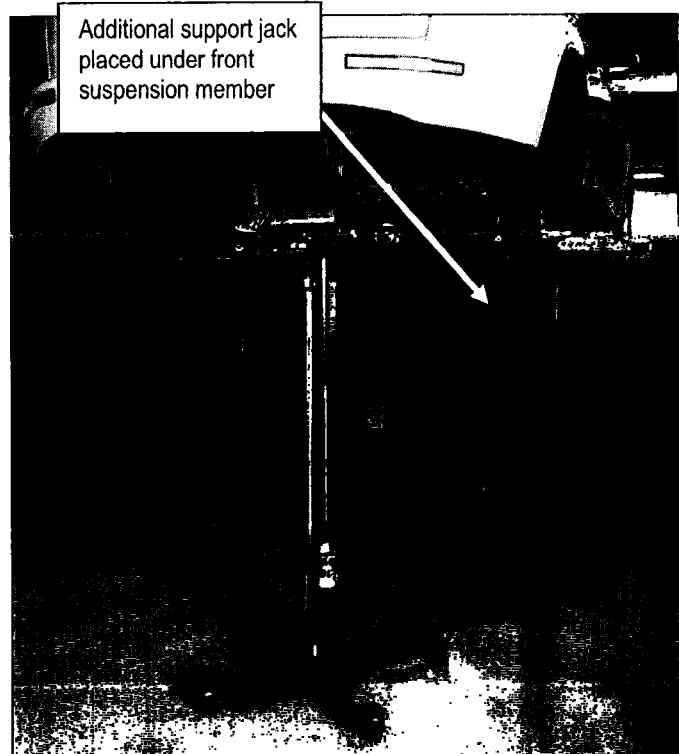

Figure 66
29. Place an additional support jack under the front suspension member to help stabilize the vehicle on the lift (see Figure 66).